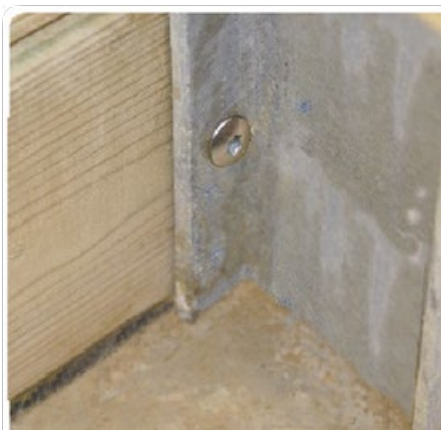

Figure 11 –
- fix them to the 4 supporting braces (these are pre-drilled as shown in *Figure 11*) using 36 torx safety screws 6 × 30 A2 SS (bag D).